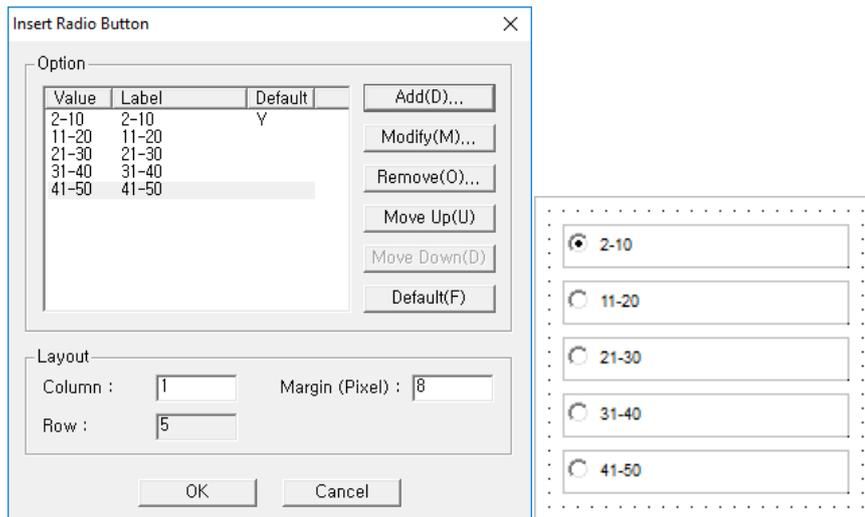

Fig. 286 [Insert Radio Button] dialog
**Group.** Create a group box to group together several controls, as shown in Fig. 286. Users can also drag a data element folder into the report and select [Group], which will automatically create a group of controls already bound with data elements.